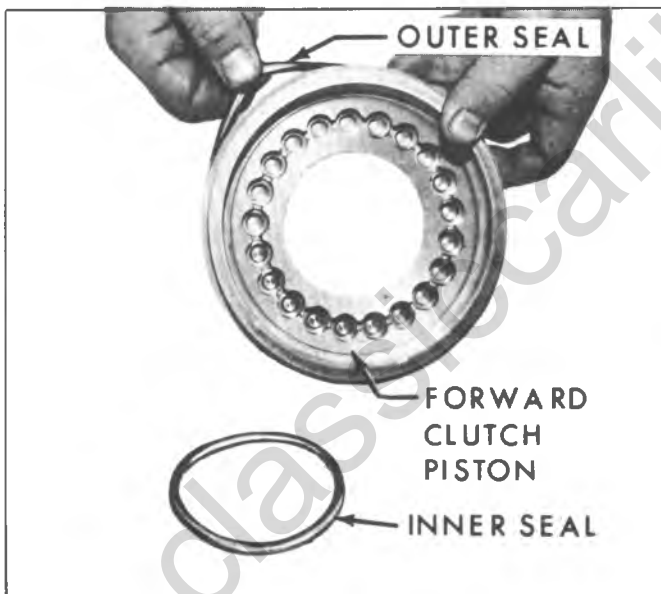

Fig. 81M--Removing Forward Clutch Piston Inner and Outer Seals
6. Remove the forward clutch inner and outer piston seals (fig. 81M).